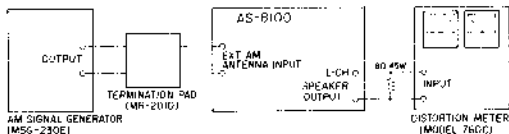

Fig. 14
9. AM RECEPTION FREQUENCY RANGE ADJUSTMENT (See Fig. 14.)